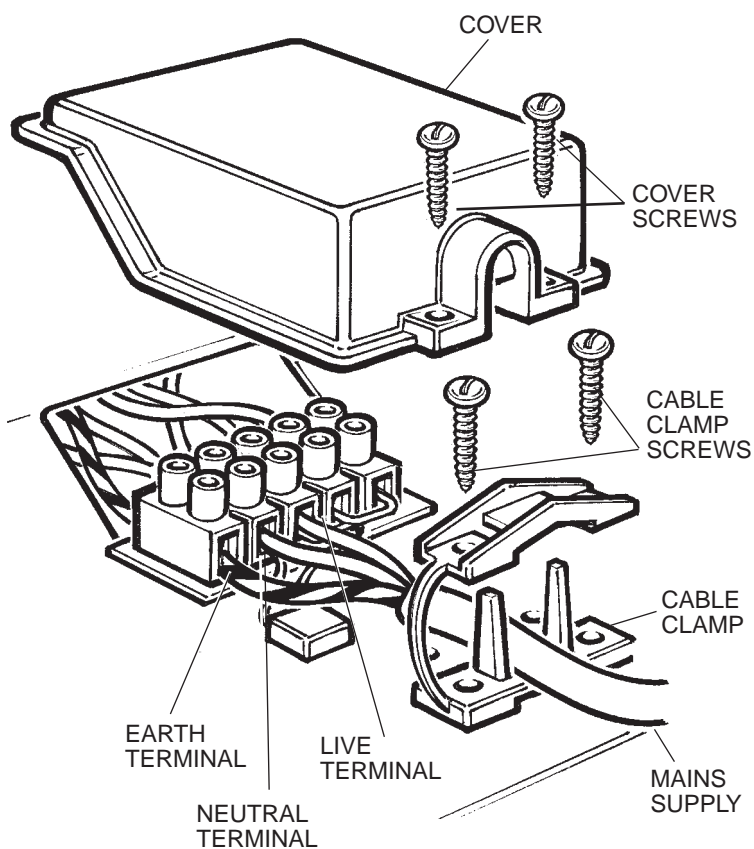

Figure 4
6. Ensure that no pipes, hoses or wires are present as obstructions below the worktop, then cut the opening into your work surface exactly where you have marked the cut-out shape (Figure 4).
1. Release the cover by removing the cover screws (Figure 4).
2. Loosen the cable clamp (Figure 4).
4. Secure the cable clamp. Check the cable terminals for tightness and ensure that the terminal links are in place, then close the cover over the terminal block (Figure 4).